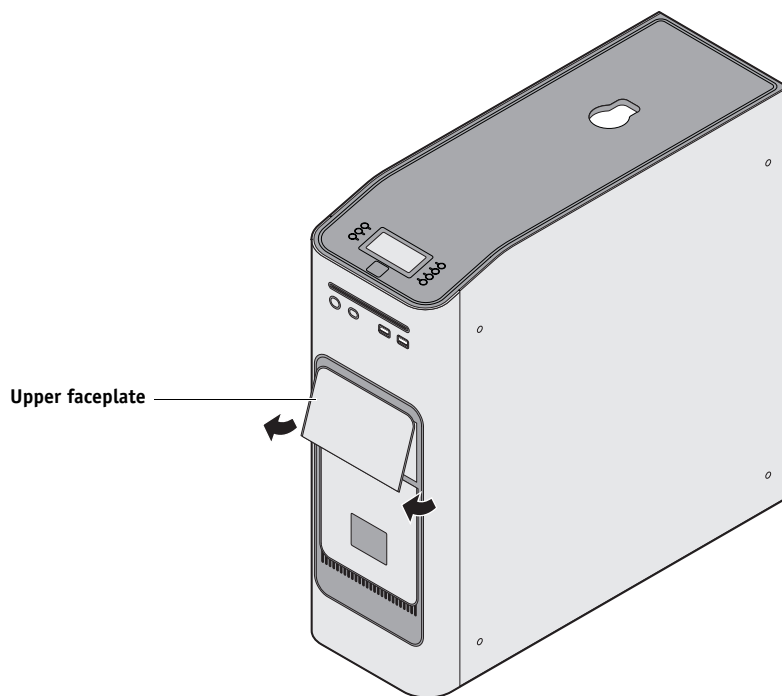
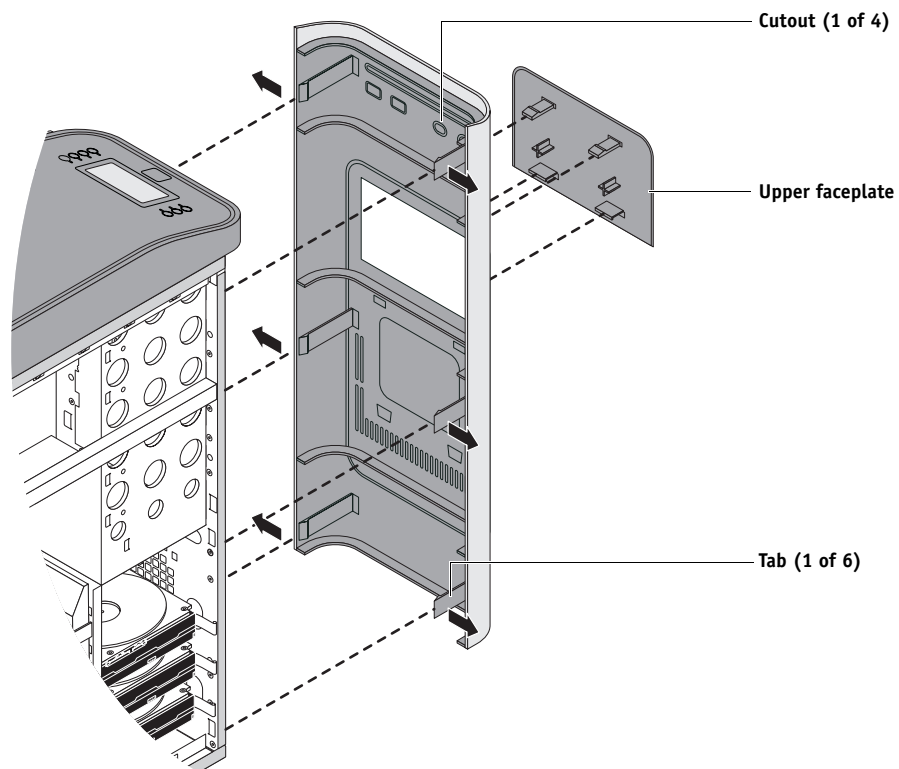

FIGURE 19: Removing the upper faceplate
FIGURE 20: Removing/replacing the front panel
1. Remove the upper faceplate from the front panel (see Figure 19).
2. **Pull outward to release the six tabs that secure the front panel to the chassis, and lift the panel off the chassis (see Figure 20).**
3. **To replace the front panel, align the four cutouts in the panel with the power and reset buttons and front USB ports (see Figure 20 on page 66).**
Orient the faceplate as shown in Figure 20 on page 66. Insert the top tabs of the faceplate into the chassis (see Figure 19 on page 65). Then carefully press the faceplate against the chassis, making sure that all four tabs of the faceplate are securely locked in place.